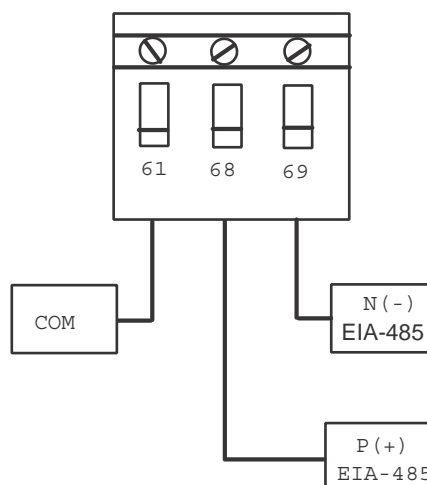

Figure 5. Network Wiring
1. Connect signal wires to drive terminal 68 (P+) and terminal 69 (N-) on main control board of drive (see figure 5).